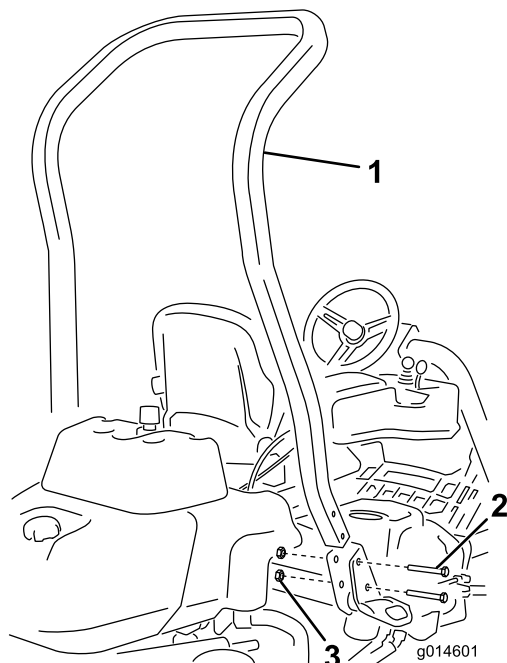

Figure 3
3. Install the roll bar into the pockets on each side of the machine, using 4 bolts (1/2 x 3-3/4 inches) and four flange-nuts (1/2 inch) (Figure 3)